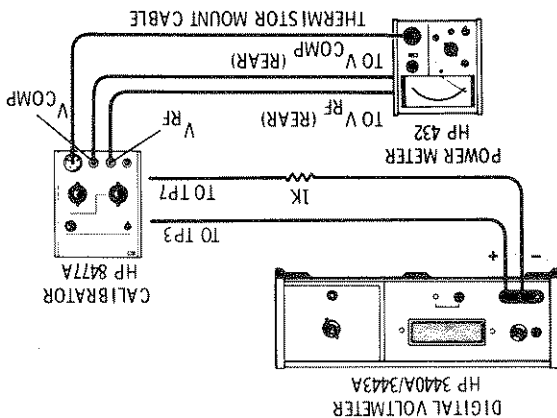
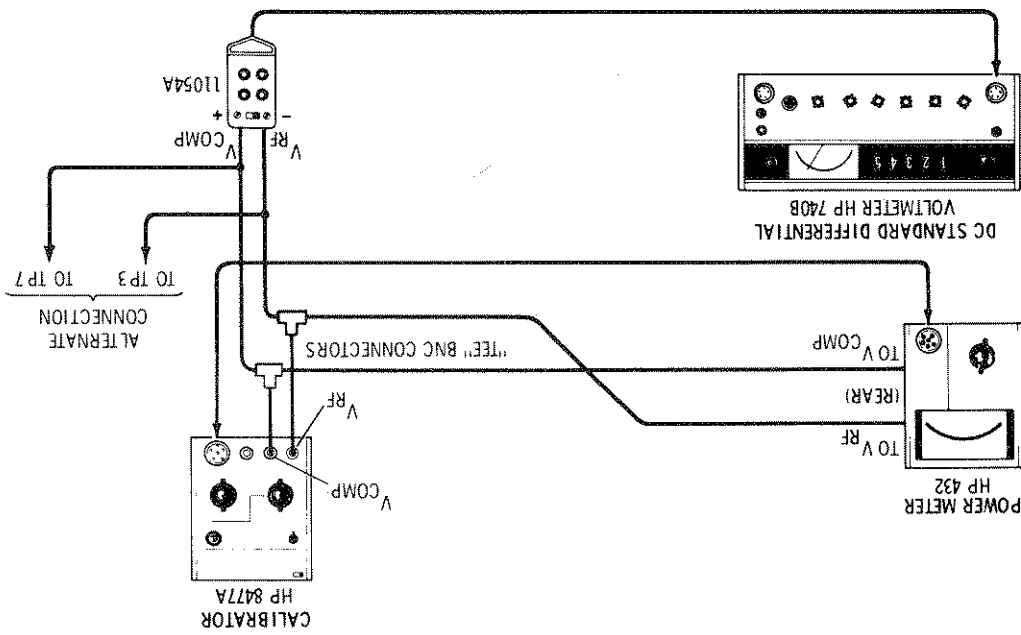

Figure 2. Zero Range Test Setup
Figure 4. Range Accuracy Test Setup
- b. Connect the equipment as shown in Figure 2. Connect the low side of the digital voltmeter to Test Point 7 with a 1K resistor in series with the test lead. The high side of the DVM is connected to BNC jack on the front panel of the 8477A and TP3 at TP7. TP7 is also available at the V_{comp} BNC jack on the front panel of the 8477A and TP3 at the VRF jack. Use BNC tees on these connectors to monitor the test point voltages there, if desired. Except for the different voltmeters used, the equipment setup is identical to Figure 4.
a. After making the following instrument settings, connect equipment as shown in Figure 4.